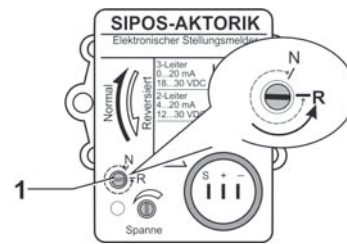

Fig. 11: Setting to reverse mode
Rotate mode adjuster (fig. 11, item. 1) counterclockwise to stop "R".
The mode adjuster (fig. 11, item 1) must always be in an end position, otherwise the function of the position transmitter is faulty (initial and full-scale values cannot be set).